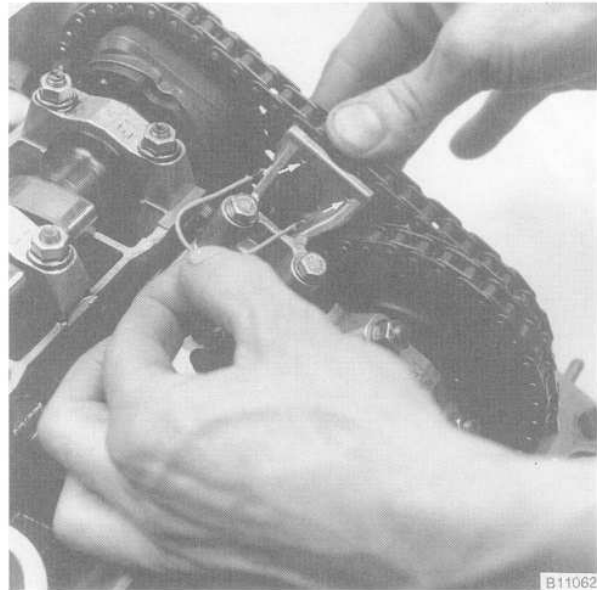

Fig. 22. Secondary timing chain tensioner being locked down. Press tensioner down fully and insert wire through holes (arrow).
28. Depress the secondary timing chain tensioner and lock it down by inserting BMW special tool no. 11 3 290. Alternatively, a stiff piece of wire can be used. See Fig. 22.